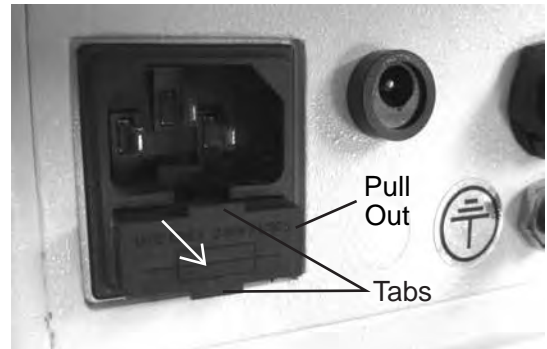

Figure MM-8 Pull Out
2. Press down on the top tab in the middle of the Power Input Module to release the Fuse Holder, and gently pull out the Fuse Holder by gripping the two small tabs. Refer to Figures MM-8 and MM-9.